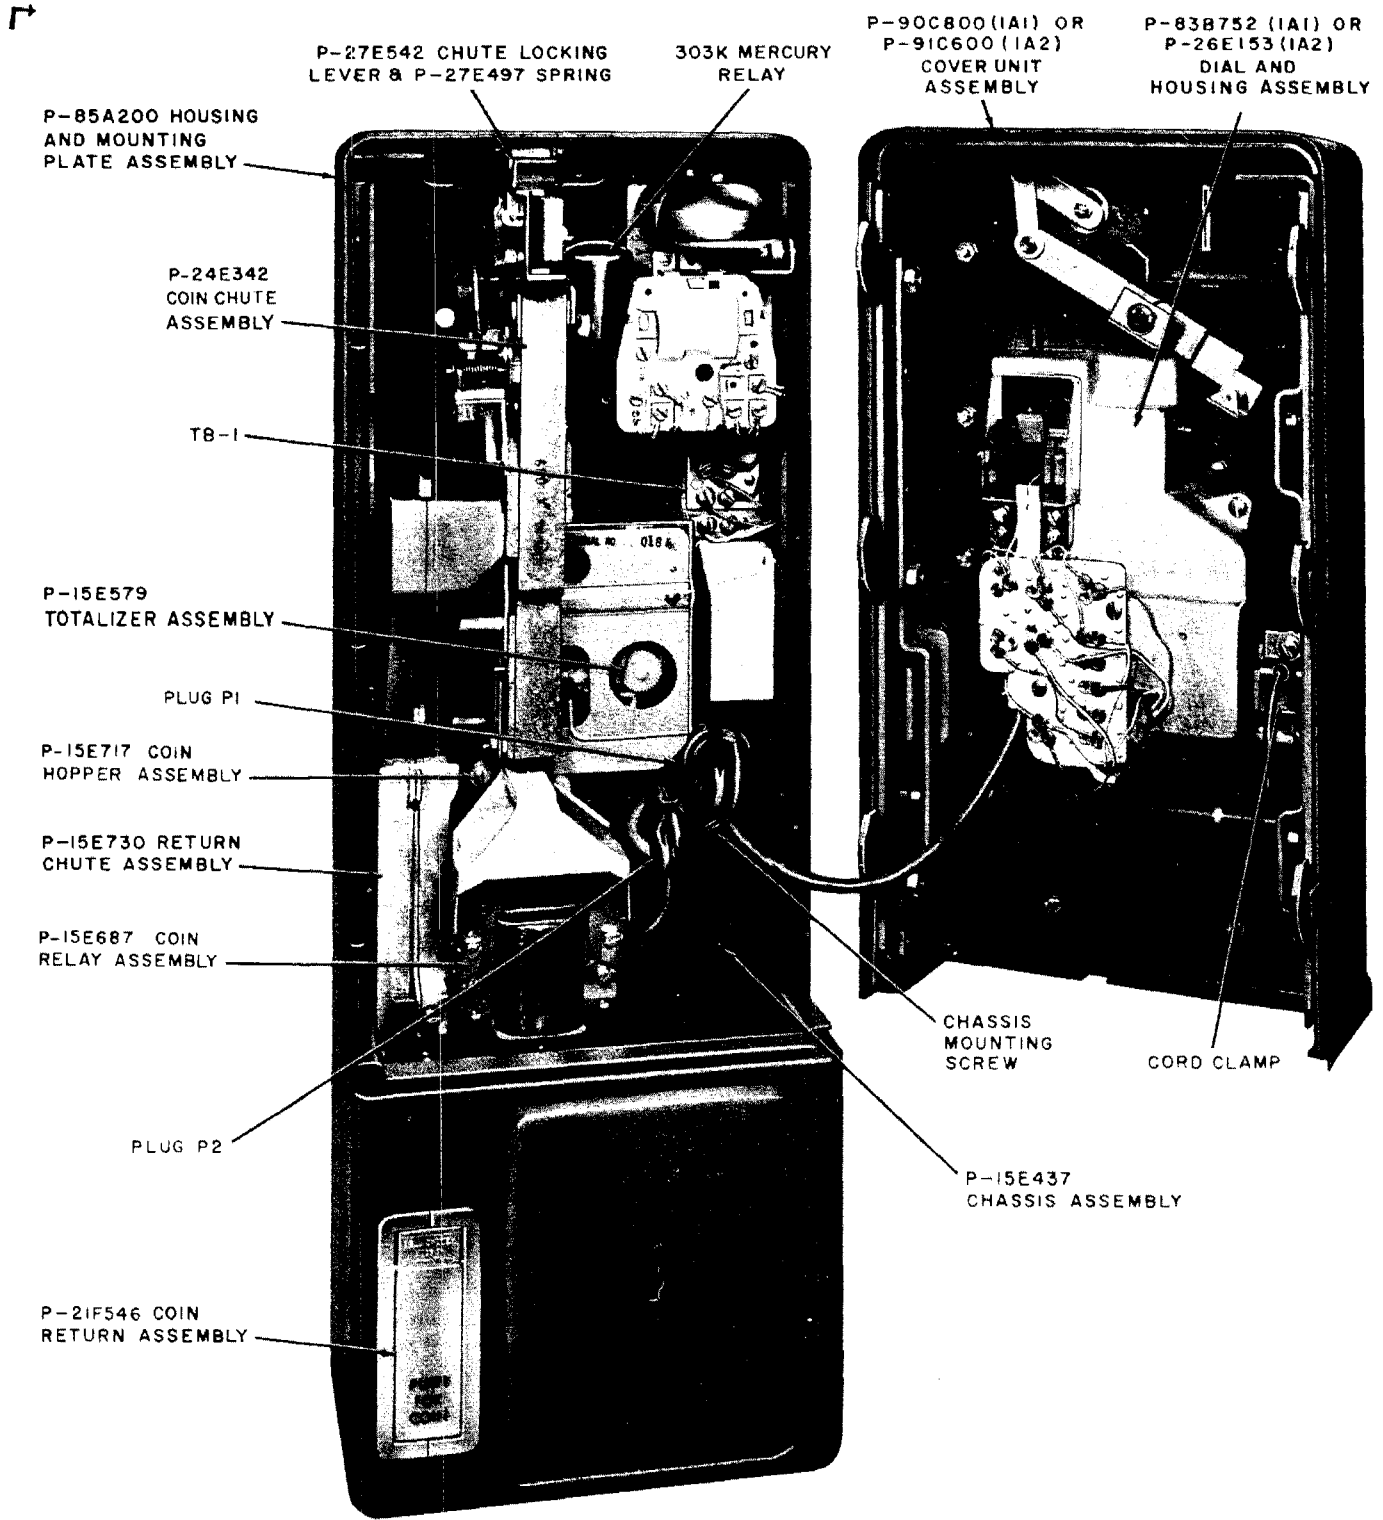
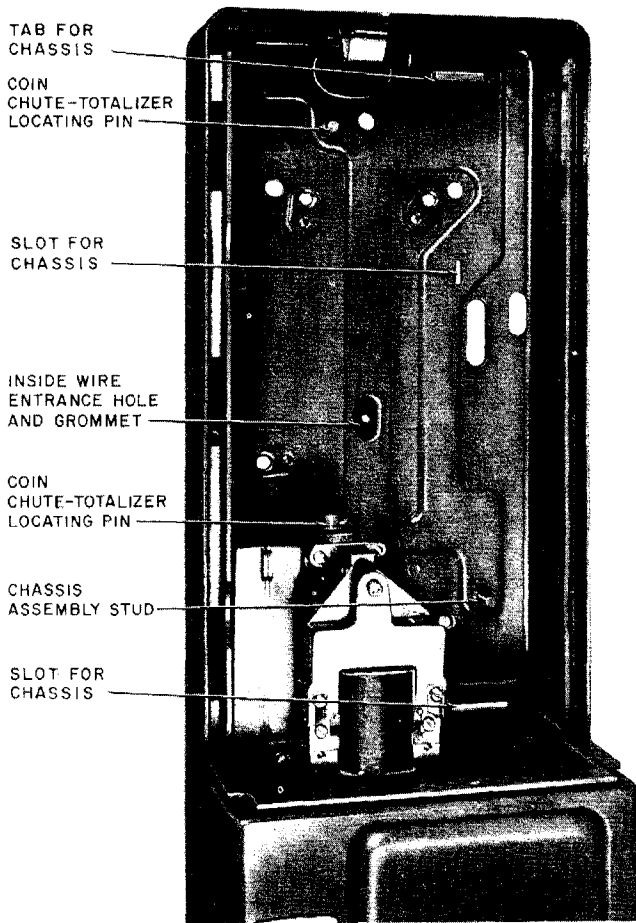

Fig. 7—Assembly of Parts (Typical)
Fig. 8—P-85A200 Housing and Mounting Plate Assembly
- (1) Unlock 29A lock.
- (2) Release locking mechanism with 719A tool by turning tool 1/8-turn counterclockwise. See Section 506-326-100 for illustration of 719A tool.
- (3) Slide cover forward about 3 inches to obtain access to plug P1.
- (4) Disconnect plug P1 (Fig. 7) by pulling straight out as cover is carefully lifted off.
- (1) Disconnect plug P2 (Fig. 7).
- (2) Release chute locking lever and spring.
- (3) Lift spring out of groove in coin chute.
- (4) Tilt top of coin chute forward and lift out.
- (1) Place assembly on pins located on rear of hopper assembly and back of housing (Fig. 8).
- (1) Remove coin chute-totalizer assembly (4.03).
- (2) Disconnect black and yellow leads from coin relay and carefully pull leads through guide hole on coin hopper.
- (3) Loosen chassis mounting captive screw (Fig. 7).
- (4) Pull chassis assembly out at bottom and slide down to remove.
- (1) Slide chassis under tab (Fig. 8).
- (2) Seat chassis tabs in slots.
- (3) Tighten chassis mounting captive screw (Fig. 7).
- (4) Replace black and yellow leads on coin relay after threading through hole in hopper. Connect yellow lead to terminal G and black lead to terminal 3 of coin relay.